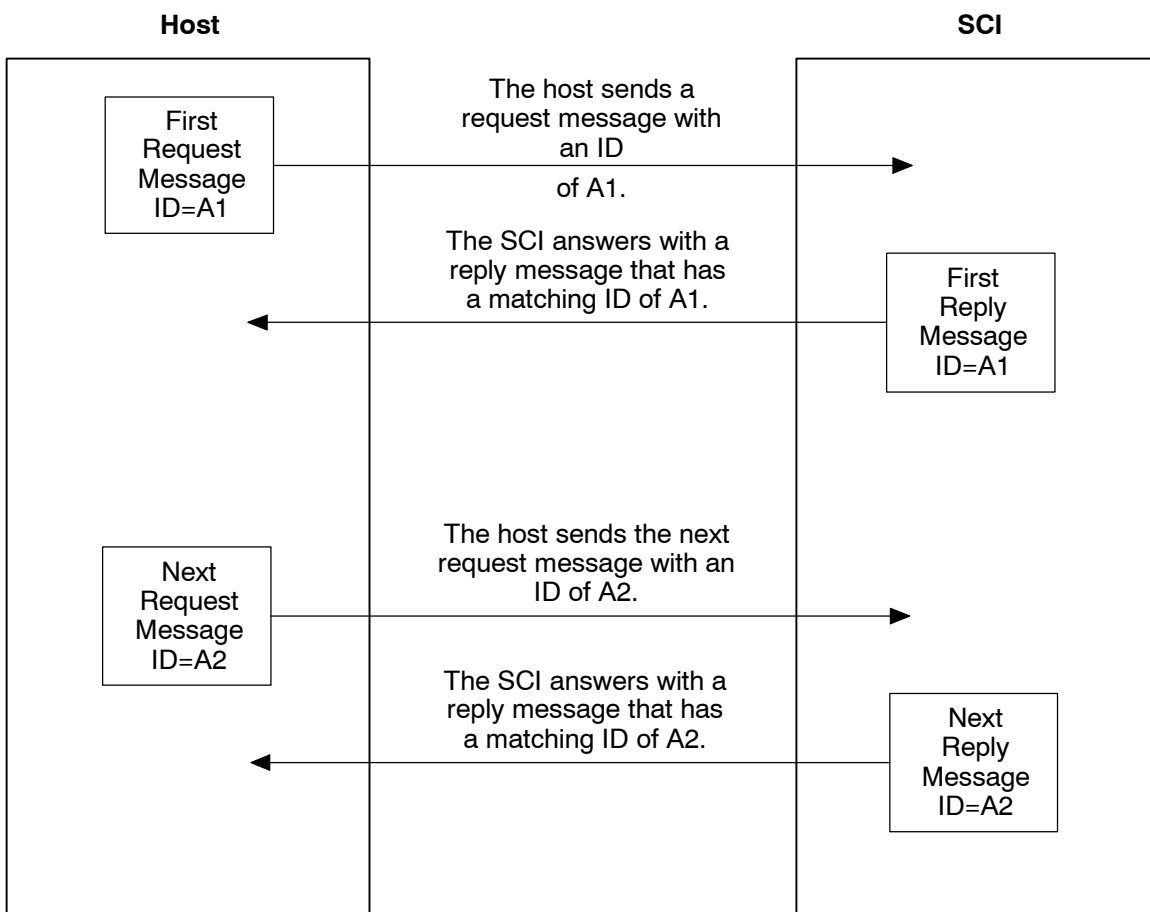

Figure 1.3.2. Message ID in Sample Request and Reply Messages
Each message contains a message identifier (ID). When the host sends a request message, it assigns a message identifier to the message. When the SCI sends back the reply message, it copies the same message identifier into the reply message. When the host sends the next request message, it assigns a different message ID to the message. Figure 1.3.2 shows how the message identifier is used.